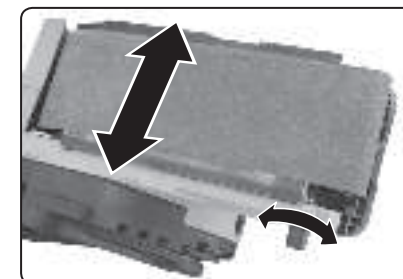

Fig. 6
- ➔ Tilt down the lever of the quick coupling system to tension the belt and, if necessary, adjust the position of the belt using the side bolt (fig. 6).